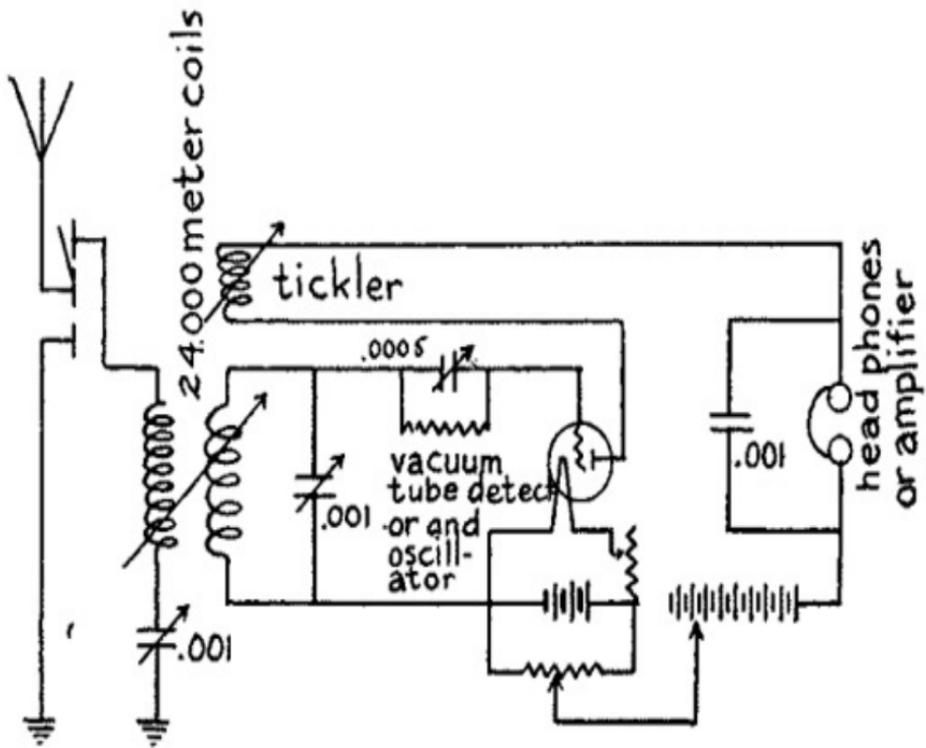

FIG. 60.—Wiring Diagram of Long Wave Antodyne, or Self-Heterodyne Receptor.
*The Parts and Connections of an Autodyne, or Self-Heterodyne, Receiving Set.*--For this long wave receiving set you will need: (1) one *variocoupler* with the primary coil wound on the stator and the secondary coil and tickler coil wound on the rotor, or you can use three honeycomb or
other good compact coils of the longest wave you want to receive, a table of which is given in Chapter XII; (2) two *.001 mfd. variable condensers*; (3) one *.0005 mfd. variable condenser*; (4) one *.5 to 2 megohm grid leak resistance*; (5) one *vacuum tube detector*; (6) one *A battery*; (7) one *rheostat*; (8) one *B battery*; (9) one *potentiometer*; (10) one *.001 mfd. fixed condenser* and (11) one pair of *headphones*. For the two-step amplifier you must, of course, have besides the above parts the amplifier tubes, variable condensers, batteries rheostats, potentiometers and fixed condensers as explained in Chapter IX. The connections for the autodyne, or self-heterodyne, receiving set are shown in *Fig. 60*.